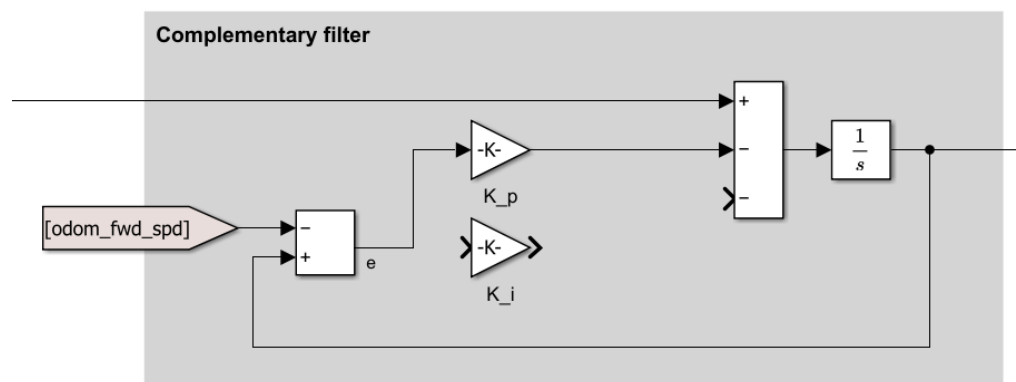

Figure 3: Proportional controller implementation
4. Run the model. Without driving the QBot around, let the model run for at least 1 minute and observe the Forward Speed Estimate scope. Then, drive the QBot forward and backward. Release the left button (LB) to disarm the QBot and let it come to a stop. Is the forward speed estimated accurately when the QBot is idle and when it is moving? Stop the code.
- Now you will fuse the estimates from the individual sensors by correcting for the observed error in the accelerometer-based estimate using a proportional controller with the odometry-based estimate as the reference. In the Complementary Filter section, complete the connections shown in Figure 3: connect the output of the integrator to the + input of the first sum block, then apply a gain of K_p to this output before it is subtracted from the original accelerometer measurement. Set the value of K_p to 0.1.